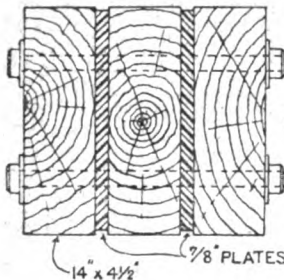

Fig. 1
Comparative Designs of Girders.—Assuming the load is 10 tons distributed over a span of 18 ft., the calculations will be as follows. (1) Flitch beam: $W = \frac{d^3}{L} (C b + 30 t)$; where W = breaking weight in cwt. in centre; d = depth in inches; L = span in feet; C = constant = 3 for Memel; b = total breadth of timber in inches; t = thickness of flitch plate in inches. Factor of safety, 10. One or two trial designs may be necessary before finding a suitable one, when Fig. 1 may be decided upon. Ten tons distributed = 5 tons
Umbrella-maker's Stock Knife.—Fig. 1 shows a side view of an umbrella-maker's stock knife, A being the cutting edge of the blade, and B the handle. An ordinary eye-bolt is put through the bench in a convenient position and secured by a nut underneath. The hook C (Fig. 1) fits into the eye of the bolt. A piece